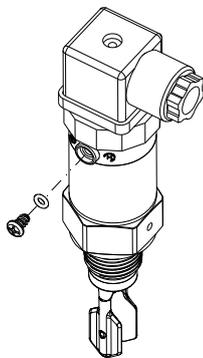

Fig. 14
- (1) Use a screwdriver to unscrew partial screws on the housing (See Fig. 14), the electronic potentiometer is inside.